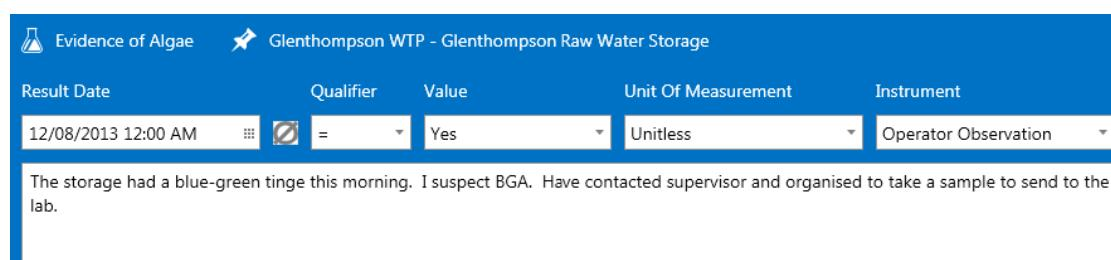
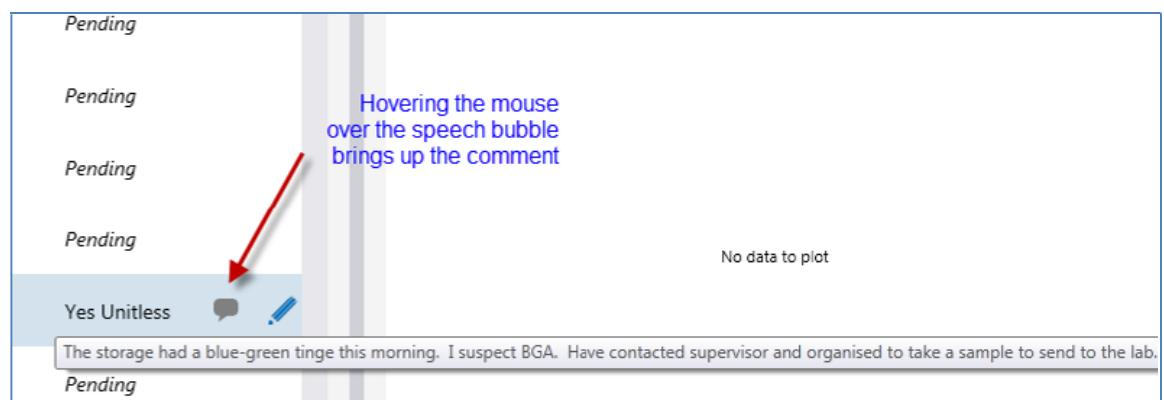

Figure 5: *Comments are added by the Operator*
Figure 6: *Viewing comments on the data entry screen by hovering over the icon*
3. **Adding and viewing comments.** Comments can be added to any data entry (Figure 5). If a comment is added to a test, it is clearly visible by a speech bubble (Figure 6). An Operator can hover the mouse over the speech bubble to read the comment. Comments can be easily added to any report if required.